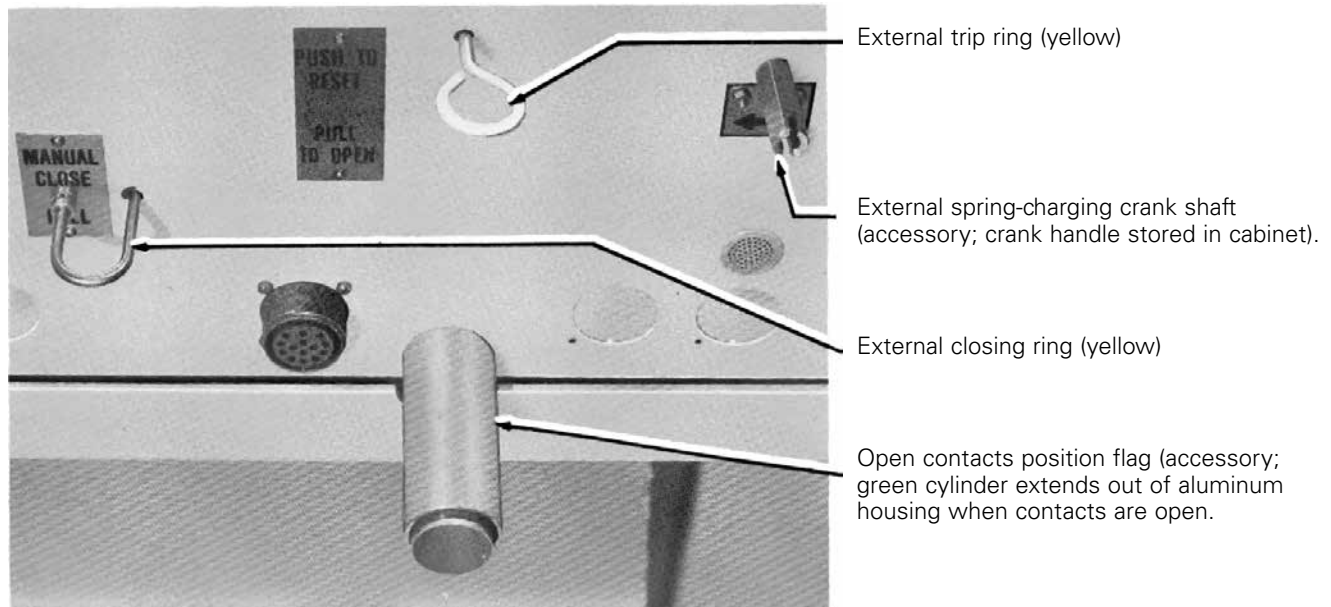

Figure 18. Underside of mechanism operating cabinet.
Recloser tripping and closing are initiated by signals from the recloser control unit. When current in excess of the programmed minimum trip level is detected on any phase or phases, the recloser control initiates a trip signal which energizes a solenoid in the operating mechanism of the recloser. When actuated, this solenoid trips the opening springs which opens the interrupter contacts. Refer to Figure 18.
3. Test manual open, see Figures 18 and 19. Confirm that the contacts have opened by: